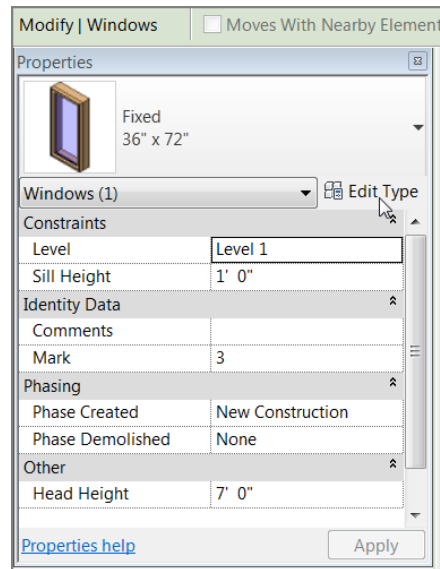

FIGURE 2.80: The Edit Type button in the Properties dialog
2. In the Properties dialog, click the Edit Type button, as shown in Figure 2.80.